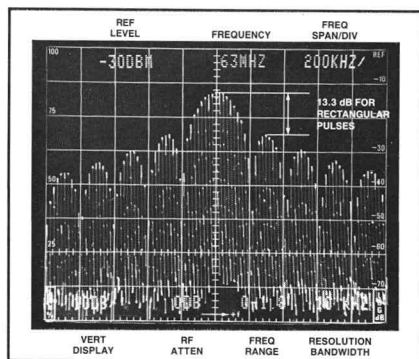
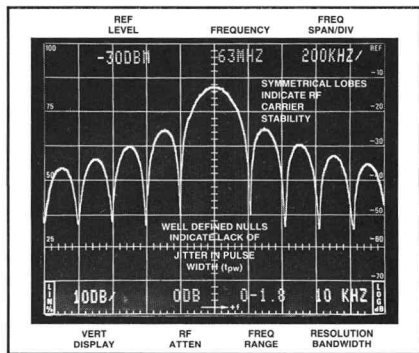

Figure 26. Frequency domain display of pulse waveform.
Figure 27. Envelope of pulsed signal
The same pulse waveform when displayed in the frequency domain would appear as shown in Fig. 26. Note that the pulse width (t_{pw}) and
display shown in Fig. 27. We can see that the amplitudes in Fig. 26 lie within the area described by Fig. 27. The big question is "Why do we see discrete signals in Fig. 26 if the waveform is composed of an infinite series of frequencies?"
The answer lies in the fact that swept frequency analyzers only analyze a specific frequency at a specific time as the beam traces across the screen. Each time a pulse is generated, the analyzer will analyze the amplitude of the frequency component at the frequency being analyzed at that instant. If the pulse repetition period (t_r) of the pulse was 1 ms and the analyzer was sweeping through the frequency spectrum at 1 ms/div, we would see one spectral line/div. If we slowed the sweep speed to 100 ms/div, we would obtain 100 spectral lines/div, which would clearly show the envelope display of Fig. 27. We need to remember that although we are varying the sweep speed, we are not changing the span of frequencies being analyzed, just the rate at which we are analyzing them. To compute the repetition rate from Fig. 26, determine the number of divisions/spectral line and multiply by the sweep speed/division.
1. For a rectangular pulse, the 1st sidelobe should be approximately 13.3 dB below the main lobe (see Fig. 26).
2. If the nulls are not well defined, the pulsewidth (t_{pw}) is FM'ing (see Fig. 27).